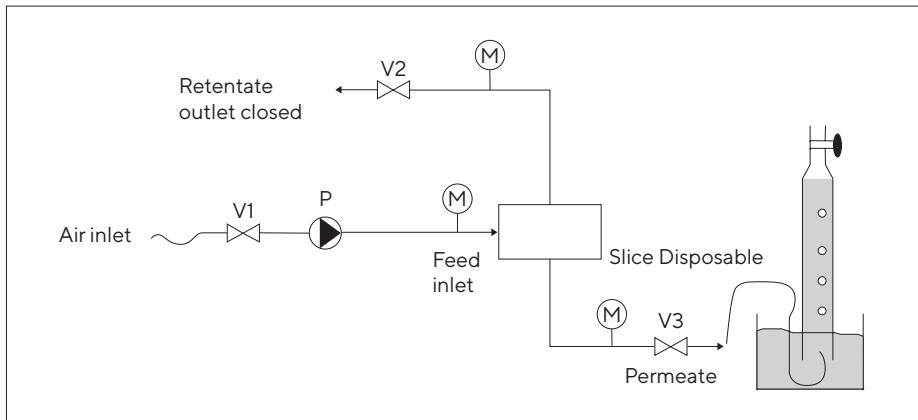

Fig. 4: System set up for manual integrity testing V₁-V₃: valves; P: pump; M: pressure gauges
- Close the lower permeate outlet (see Fig. 4).